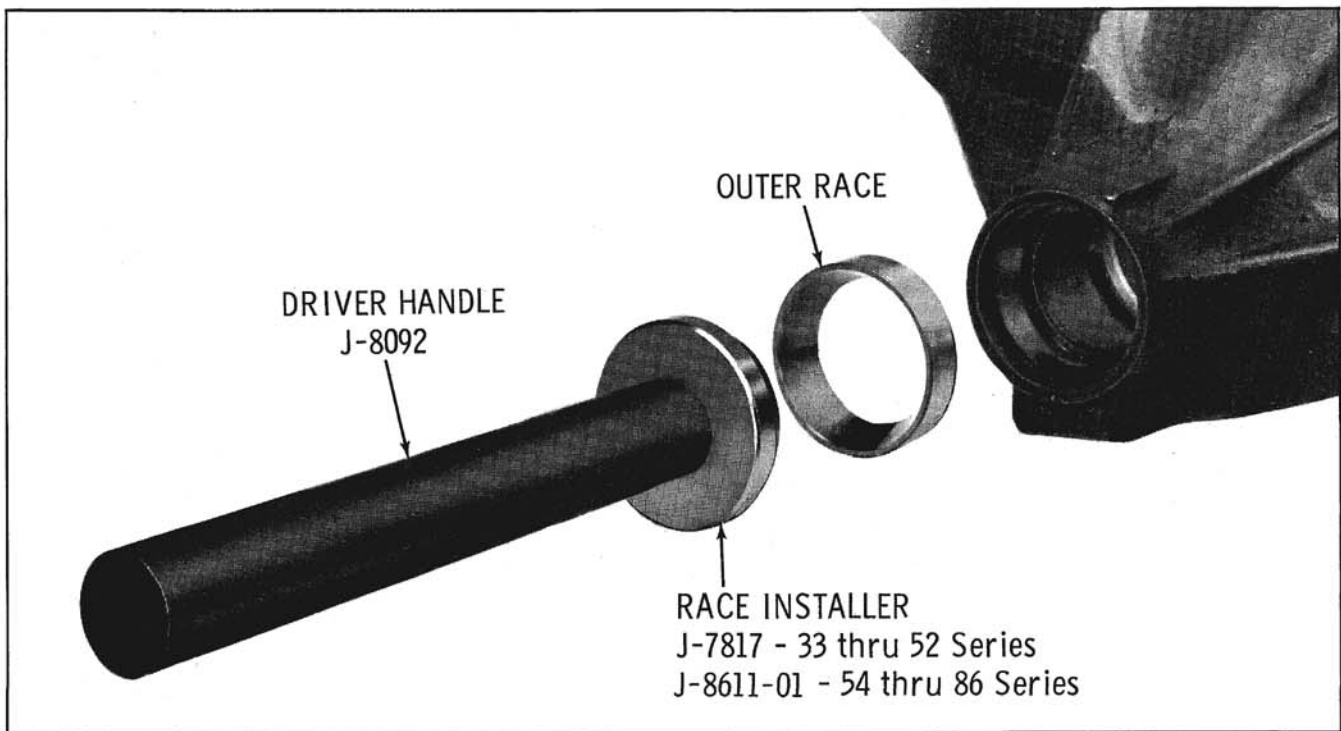

Fig. 10-23 Installing Pinion Front Bearing Outer Race
2. If a new front pinion bearing is to be installed, install new outer race as shown in Fig. 10-23.